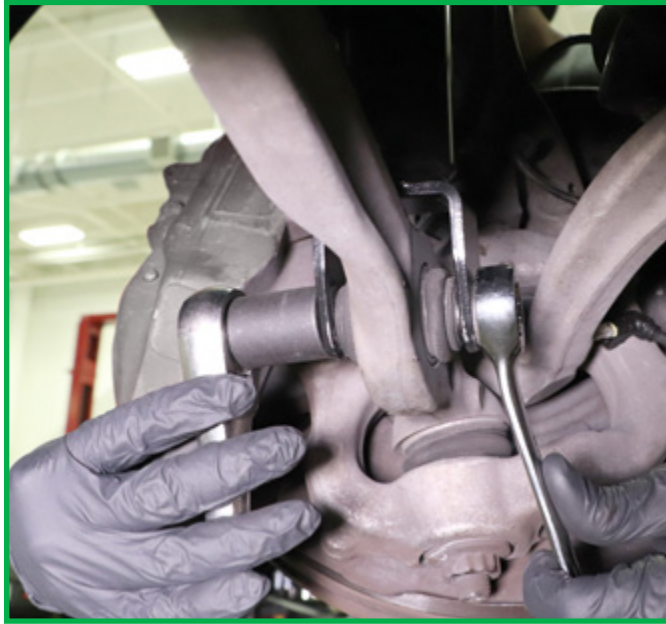

FIGURE 22
4. Reinstall the bottom mount bolt and nut. Tighten to manufacturer's specifications. (Figure 22)